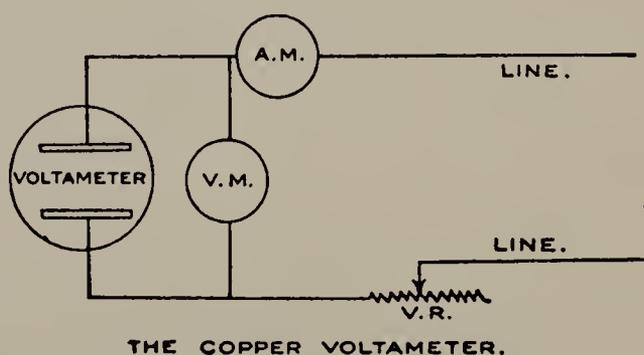

FIG. 72.
with an ammeter (A.M.) and a source of direct current (see Fig. 72). Adjust the current by means of a lamp bank or variable resistance (V.R.) to read about three (3) amperes. Allow the current to flow for 1 hour. Remove the carbon plate. Dry in a current of air or by holding about 2 ft. above a Bunsen burner and then weigh as before.